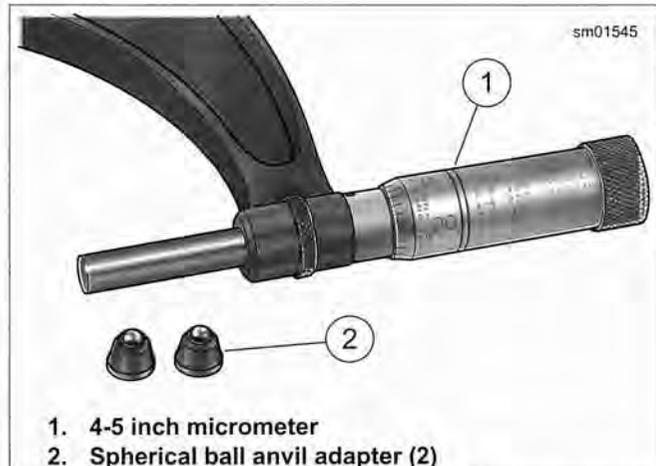

Figure 3-76. Micrometer with Anvil Adapters
- See Figure 3-76. The oval openings are too small for a standard flat anvil micrometer. Use a 3-4 inch blade or ball anvil style micrometer, or a 4-5 inch micrometer with spherical ball anvil adapters.